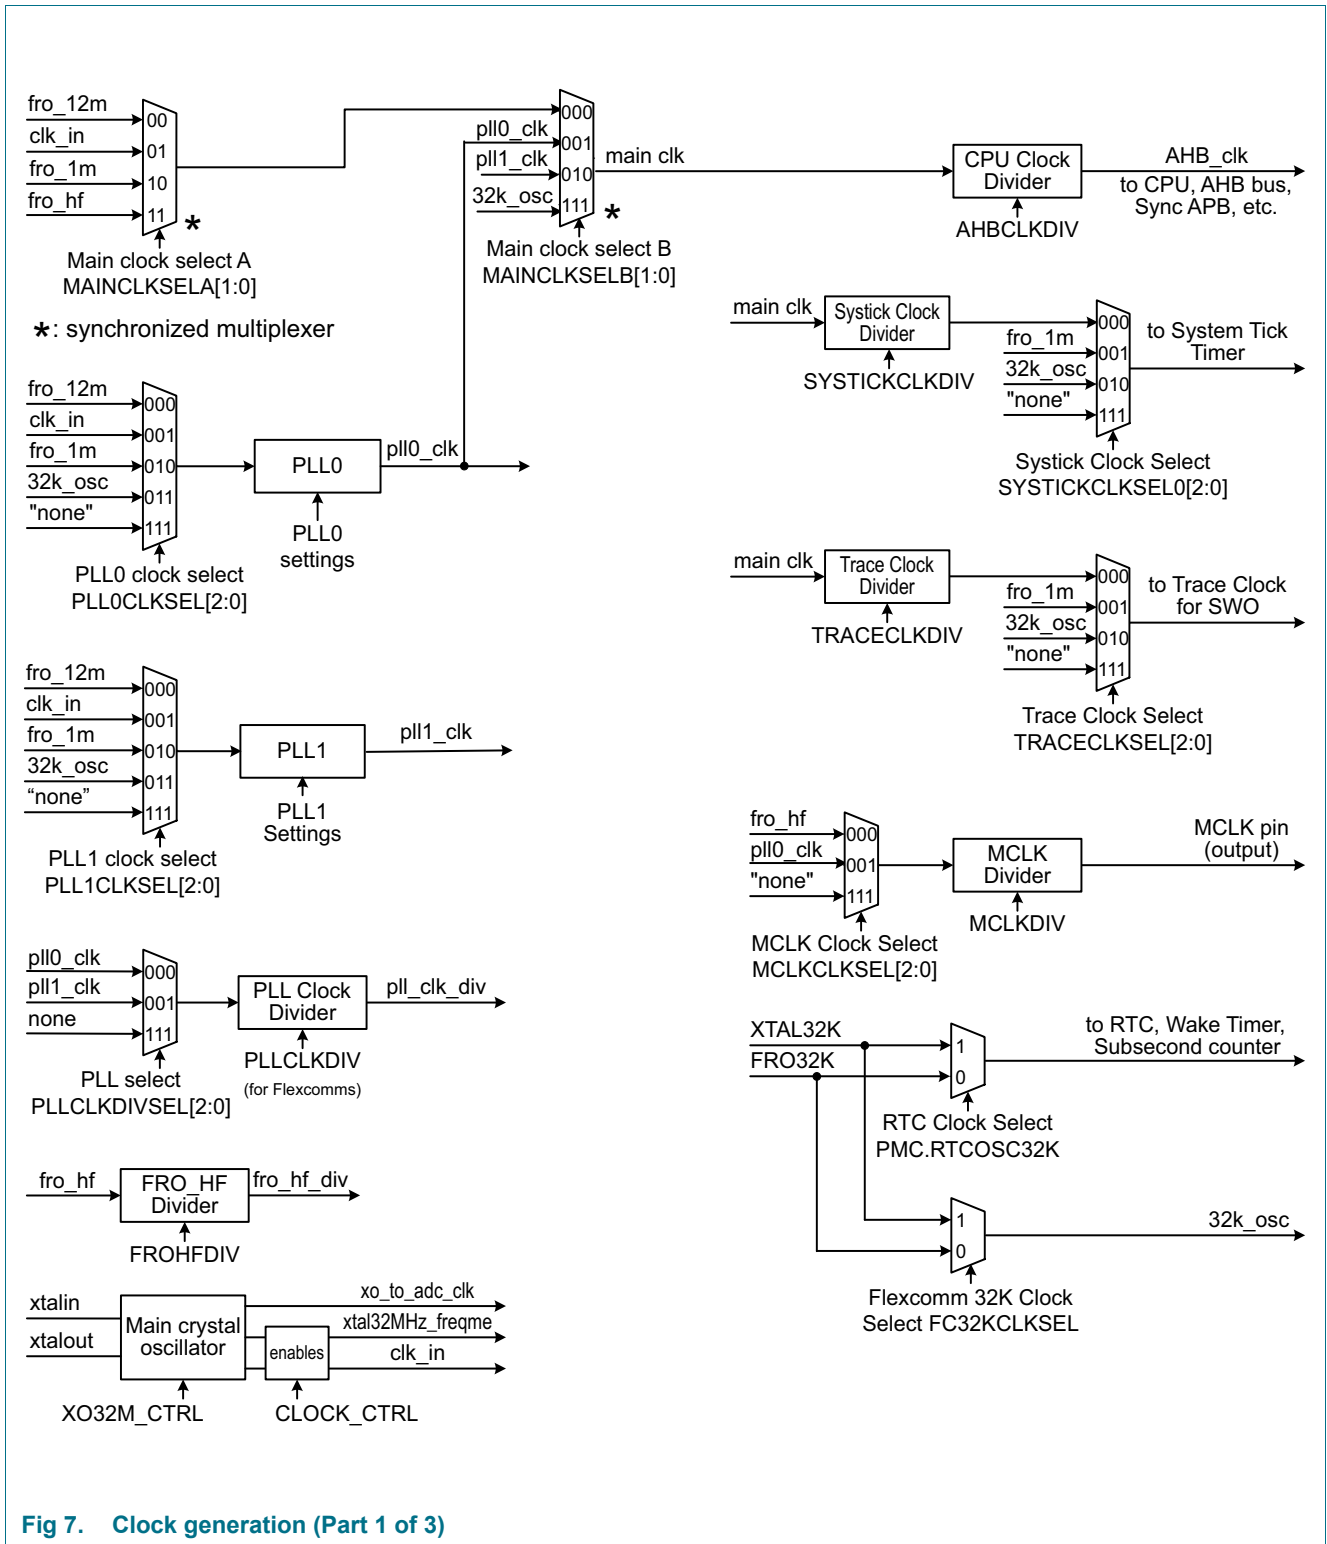

Fig 7. Clock generation (Part 1 of 3)
The system control block facilitates the clock generation. Many clocking variations are possible. Figure 7 gives an overview of potential clock options. Figure 7 describes signals on the clocking diagram. The maximum clock frequency is 150 MHz.
**Remark:** The indicated clock multiplexers shown in Figure 7 are synchronized. In order to operate, the currently selected clock must be running, and the clock to be switched to must also be running. This is so that the multiplexer can gracefully switch between the two clocks without glitches. Other clock multiplexers are not synchronized. The output divider can be stopped and restarted gracefully during switching if a glitch-free output is needed.
frg_clk	The output of each Fractional Rate Generator to Flexcomm clock. Each FRG and its source selection is shown in <a href="#">Figure 7</a> .
main_clk	The main clock used by the CPU and AHB bus, and potentially many others. The main clock and its source selection are shown in <a href="#">Figure 7</a> .
pll0_clk	The output of the PLL0. The PLL0 and its source selection is shown in <a href="#">Figure 7</a> .
pll1_clk	The output of the PLL1. The PLL1 and its source selection is shown in <a href="#">Figure 7</a> .